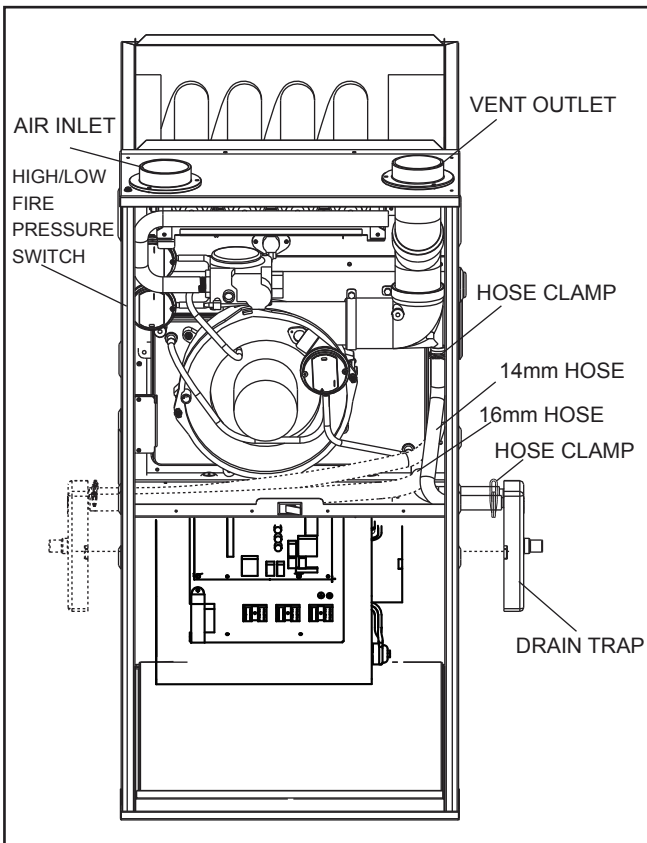

Fig. 11 - Upflow Installation, Top Venting
#### 1. Top venting (see Fig. 11)
- Connect 16mm hose between collector box and trap and connect 14mm hose between elbow and trap. (see Fig. 11). Cut the excess hoses if necessary.